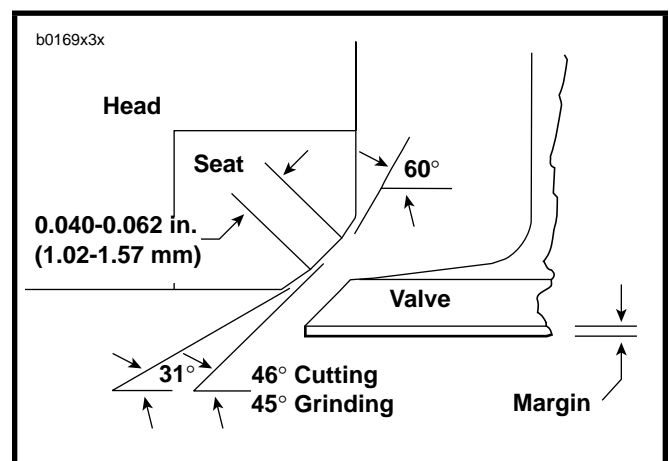

Figure 3-21. Valve Seat Angles
The correct 3-angle valve seat angles are shown in Figure 3-21. Use a **NEWAY VALVE SEAT CUTTER** (Part No. 444-HDF; part of **NEWAY VALVE SEAT CUTTER SET, Part No. HD-35758**) to cut the seats. Always grind valves before cutting seats.
3. See Figure 3-21. Check the contact pattern on valve face. It should be 0.040-0.062 in. (1.02-1.57 mm) wide, and its center should be positioned 2/3 of the way toward the outside edge of face.